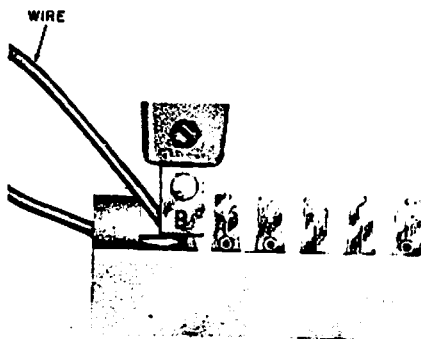

Figure 6. Looping Termination Completed
- f. Press tool straight down over terminal until wire is fully seated. See Figure 6.